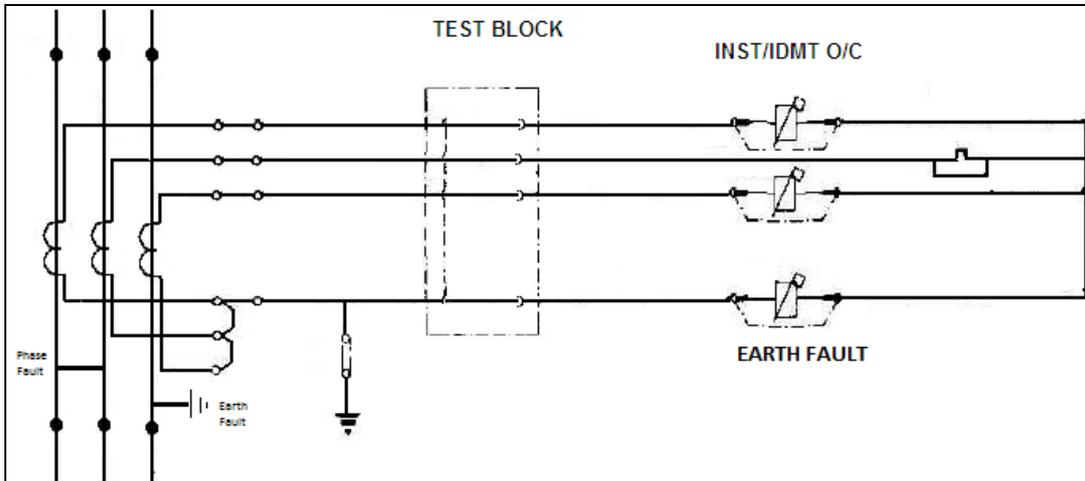

Fig 20.4 Typical connections for general O/C and E/F protection
- Typical connections for overcurrent and earth fault protection are shown below in figure 20.4.